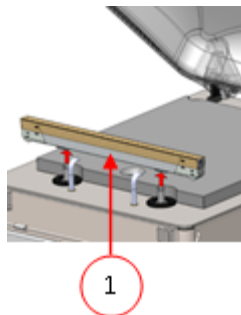

Figure 20: Removing the Sealing Bar
1. Remove the sealing bar by lifting it from the cylinders. See *Figure 20: Removing the Sealing Bar* on page 63.